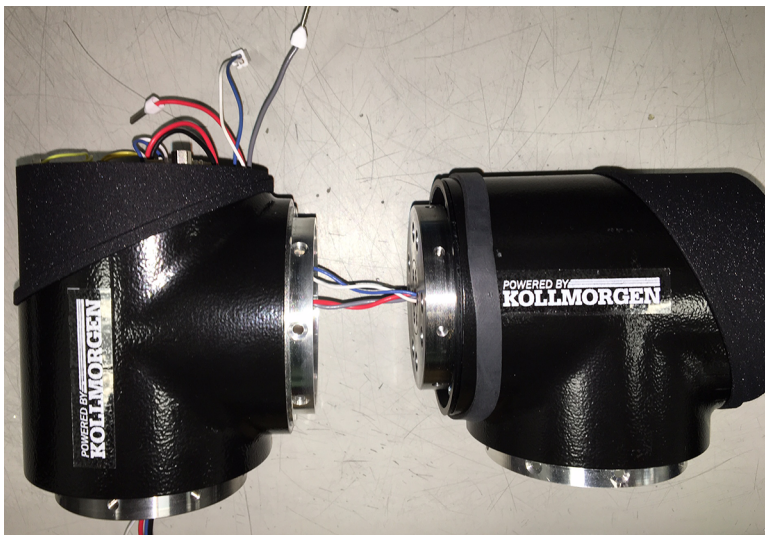

Figure 9: Routing wires between joints
2. Route the incoming wires through the upper access hole in the housing as shown in **Figure 9**. Care must be taken to route them cleanly around the motor power wires that attach to the drive PCB in this same area.